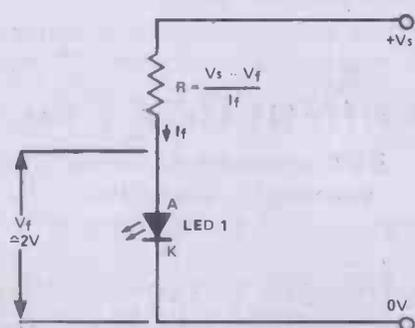

Fig. 1. Method of working out the 'R' value for a given V_s and I_f .
When you use a LED, you have to wire some form of current-limiting device in series with it, to set its operating current to the correct level. Fig 1 shows how to work out the value of resistance needed to give a particular current from a specific supply voltage. In practice, 'R' can be connected in either the anode or the cathode side of the LED.
using a LED is that of identifying its polarity. Most LEDs have their cathode (K) identified by a notch or flat on the package, or by a short lead. This practice is not universal, however, so the only sure way to identify a LED is to test it in the basic circuit of Fig. 1. Try the LED both ways round: when it glows, the cathode is the most negative of the two terminals. It is always good practice to test a LED before soldering it into circuit. It is also good practice to check the LED's forward voltage, which should be less than 2.5 volts: a greater value than this indicates an 'out of spec' or second grade device.